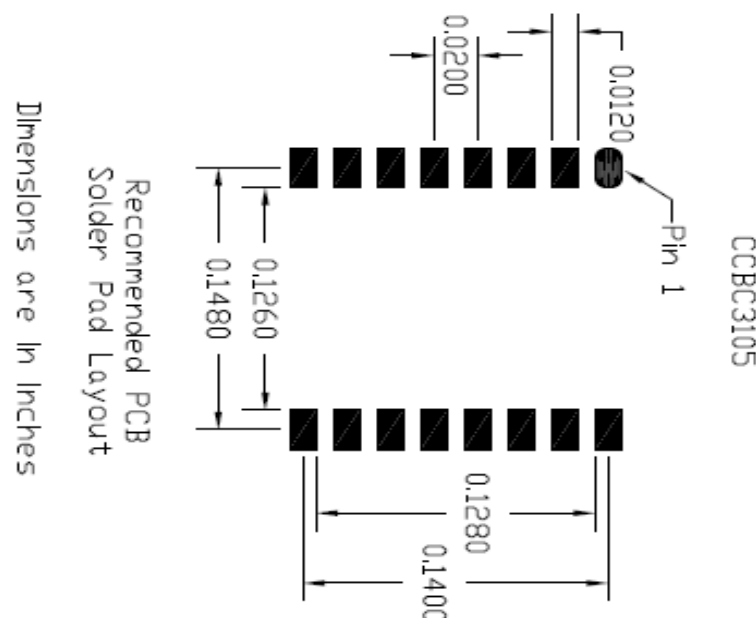

Figure 10: Recommend PCB Layout for the CBC3150-D9C Package (Dimensions in mm)
The EnerChip™ CC as depicted in Figure 10 is a typical application circuit in a 3.3 volt system where backup and power switchover circuitry for a real-time clock device is provided.
9. See Figure 10 for location and dimensions of metal pad placement on the PCB.